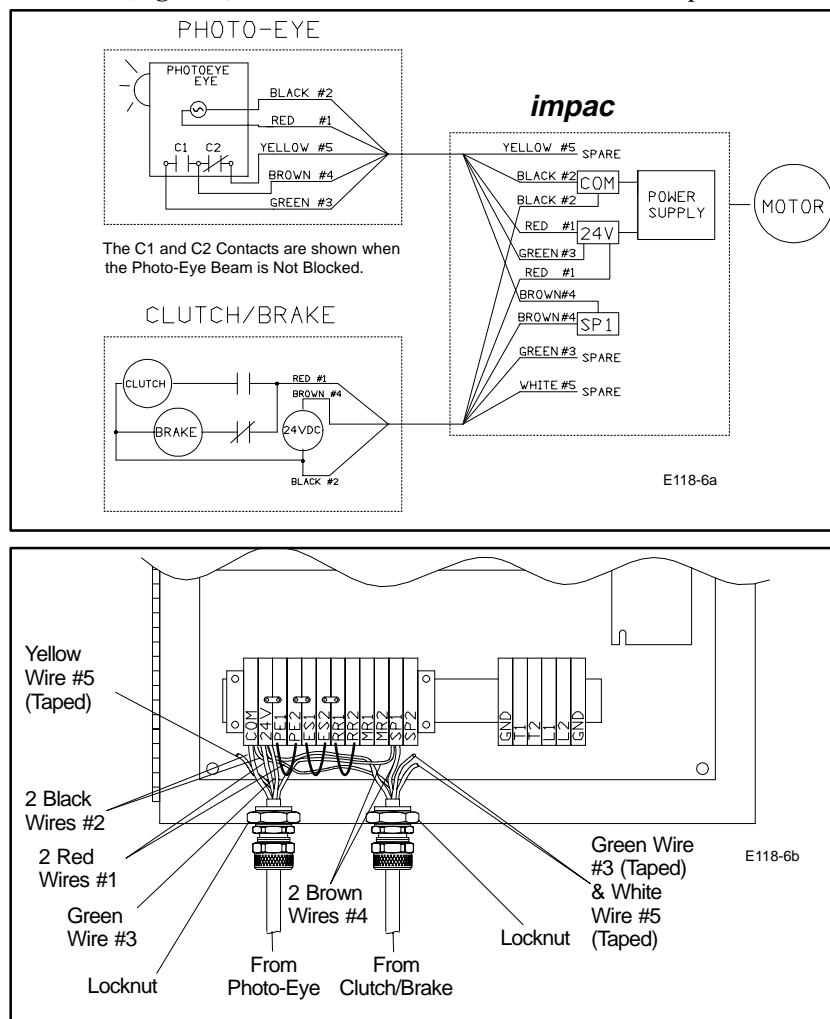

Figure 6: Sample Photo-Eye & Clutch/Brake to *impac* Wiring
- b. Remove the Locknut (Figure 6), from the Cord Grip, and insert the Cord Grip through the appropriate hole at the bottom of the controller cabinet. Attach and tighten the Locknut with an adjustable wrench.
5. Label both ends of the Clutch/Brake Cable using the blank Labels (G) provided and a permanent marking pen.
6. Wire the Clutch/Brake to the *impac* Conveyor Controller Terminal Block (Figure 6).